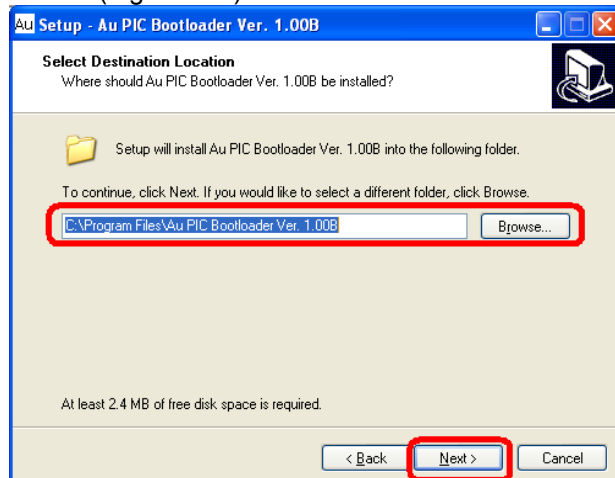

Figure C-4
4. "Select Destination" window shows up, use default path: C:\Program Files\ AU PIC Bootloader", then click "next" to continue (Figure C-4).